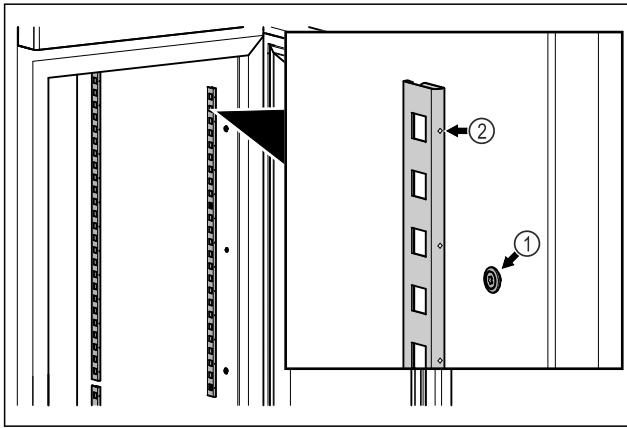

Fig. 15 Example illustration
- ▶ Hook the snap strips into the suspension Fig. 15 (1). Mark Fig. 15 (2) must point forwards.